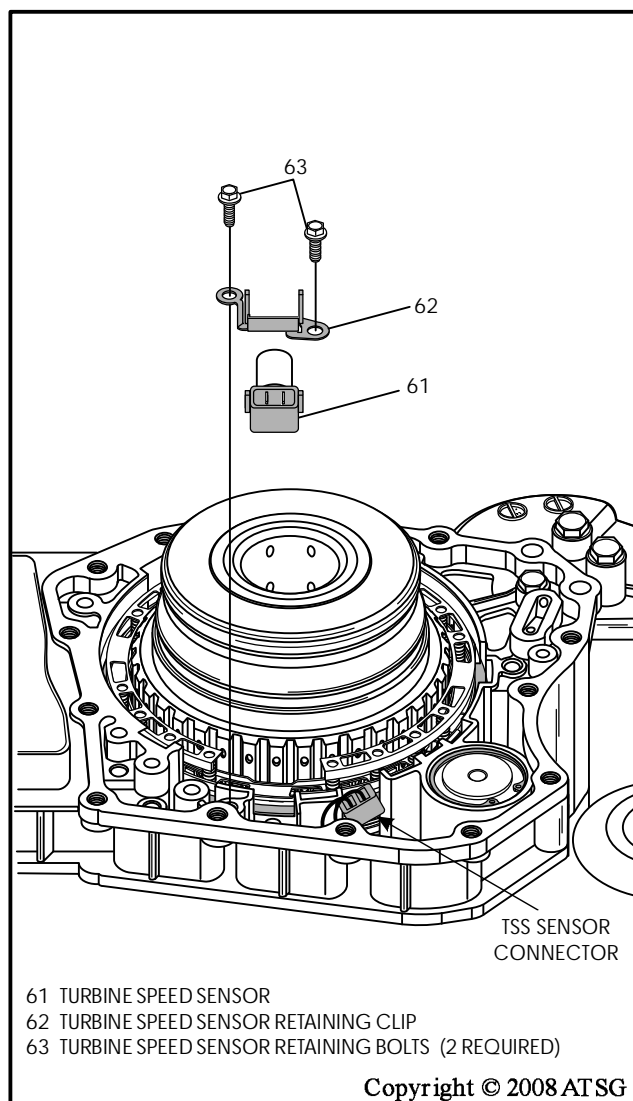

Figure 205
36. Install the turbine speed sensor, as shown in Figure 205, and torque the two bolts down to 9 N·m (80 in.lb.).